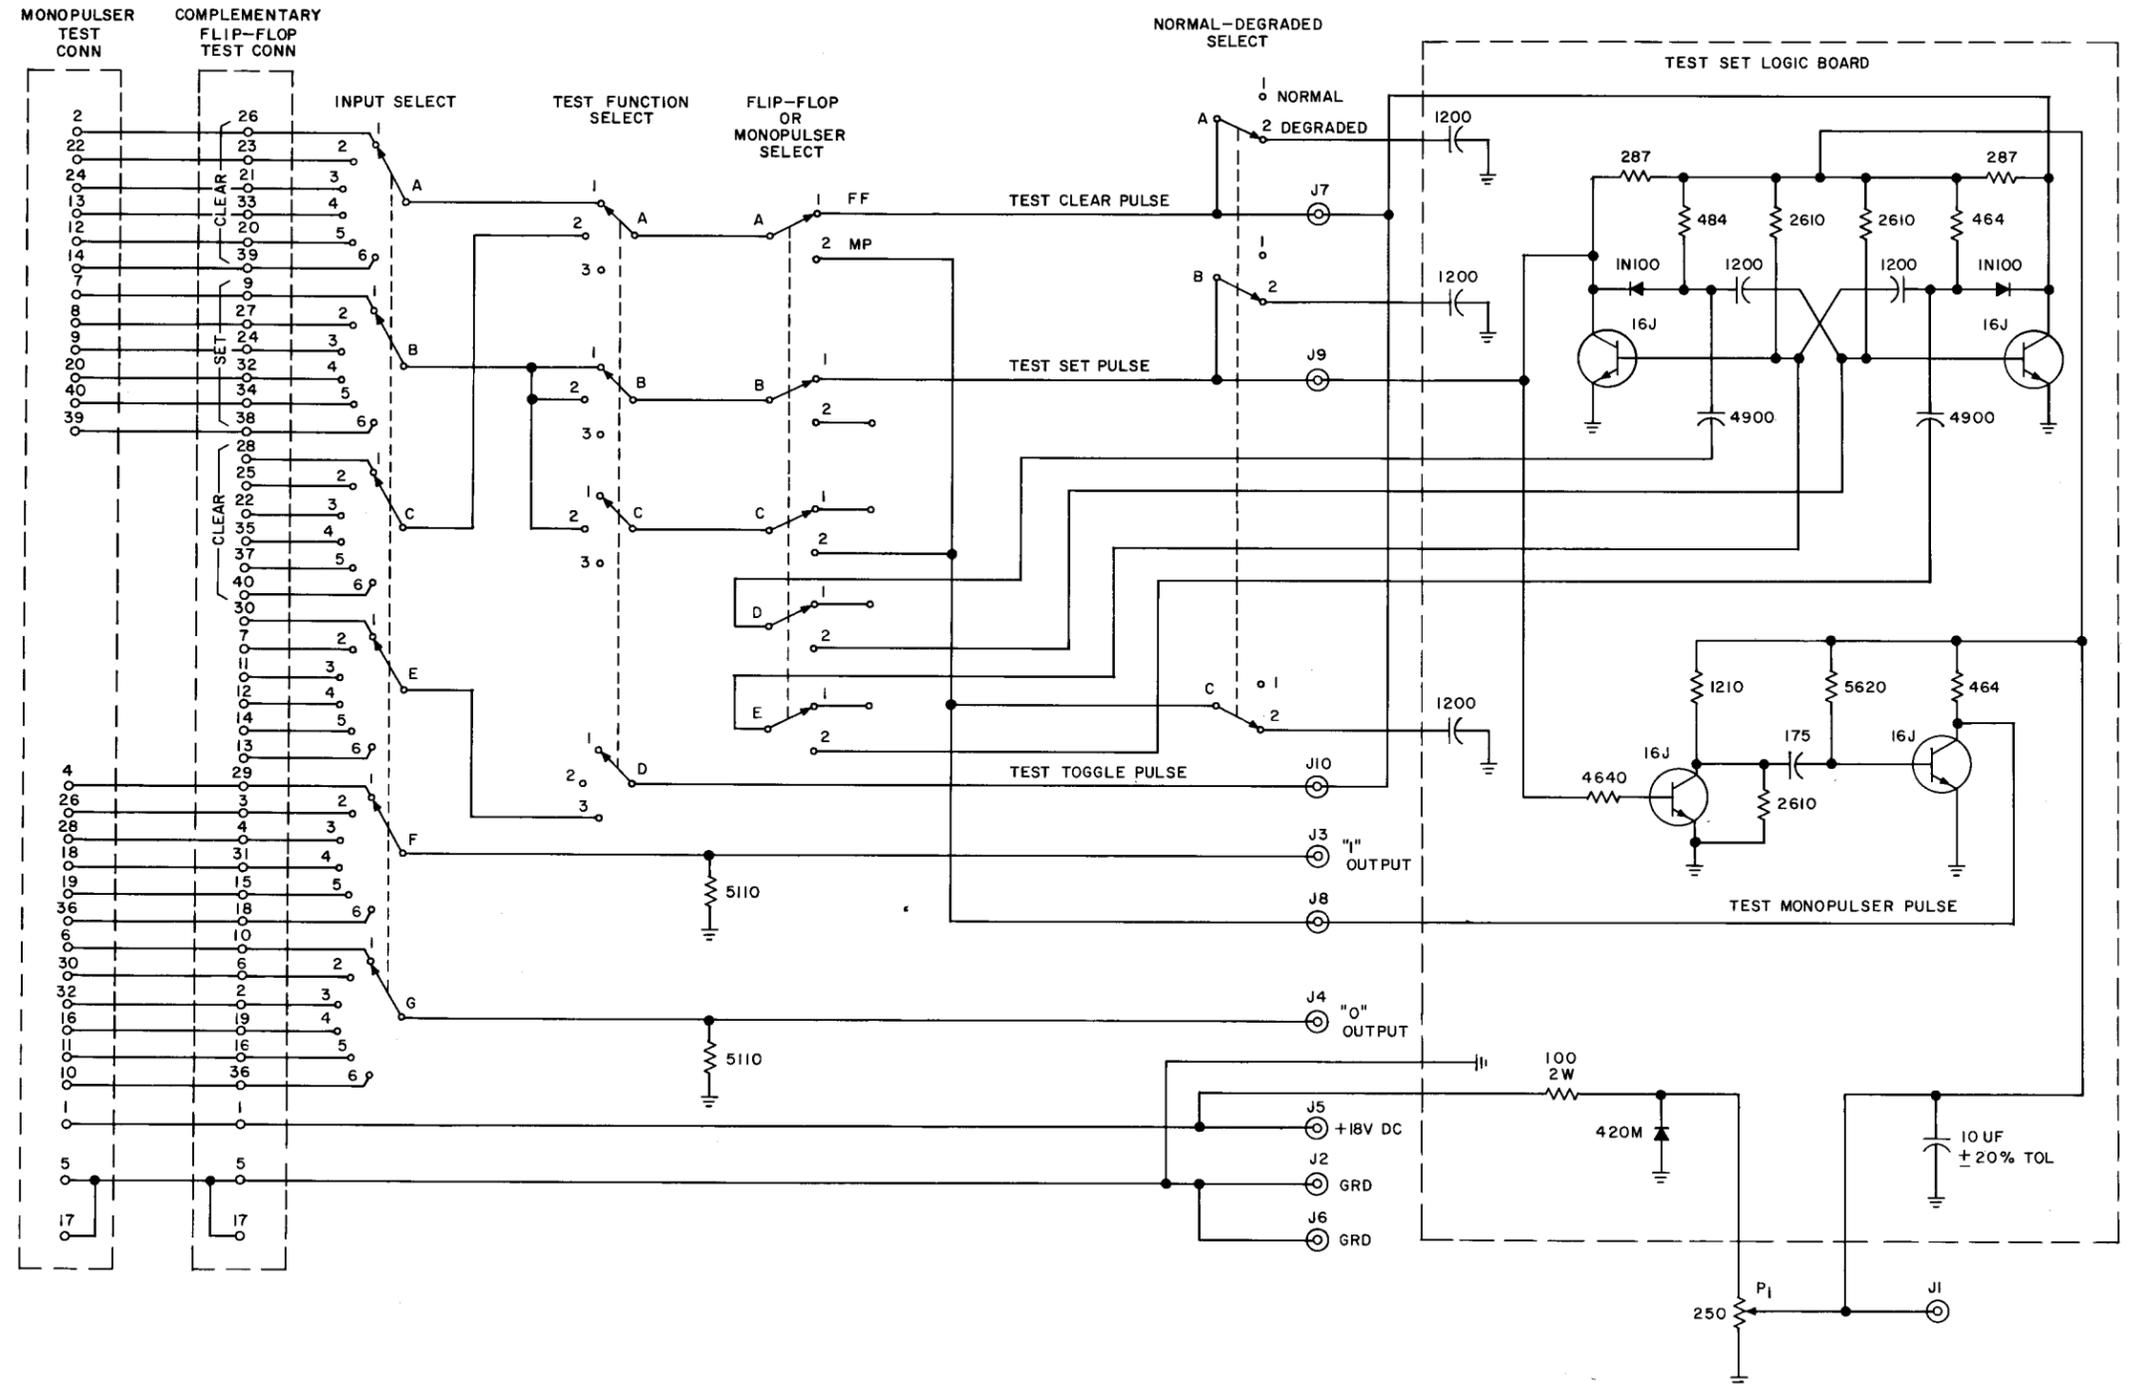

Fig. 6A — Complementary Flip-Flop Test Set
- 1 — Complementary Flip-Flop test set such as shown in Fig. 6A